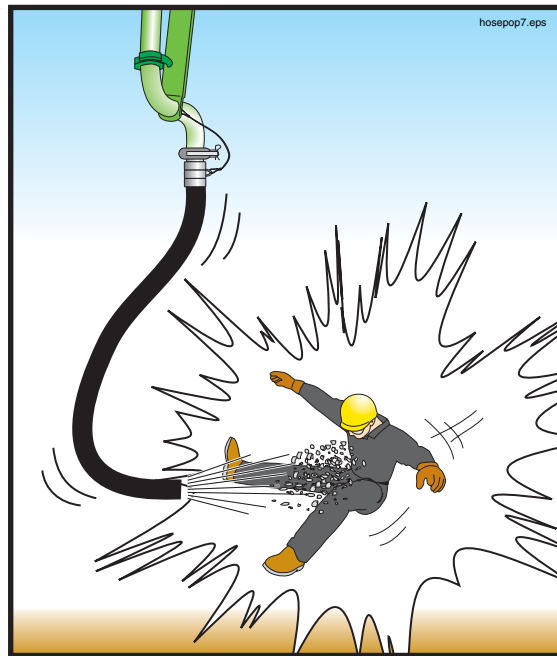

Figure 77
⚠ WARNING Do not let the concrete level in the hopper become low! If air is sucked into the material cylinders, the pump will compress the air. Compressed air always poses a hazard as it is expelled from the hopper or the delivery pipeline (Figure 77). If air is taken into the material cylinders, take the following steps to minimize the hazard:
3. Persons standing at the discharge end or near the delivery line must be warned to move away until all of the air has been purged. Warn them to stay a reasonable and prudent distance beyond the reach of the end hose or point of discharge (Figure 77).
⚠ WARNING When initially priming the delivery system, when restarting after moving, when restarting after adding or removing hoses, or whenever air has been introduced into the line, warn everyone to stay away from the discharge until concrete runs steadily and there is no movement of the delivery system. Personnel should stay back a reasonable and prudent distance beyond the reach of the end hose or point of discharge (Figure 77). Air will be in the line when first starting,